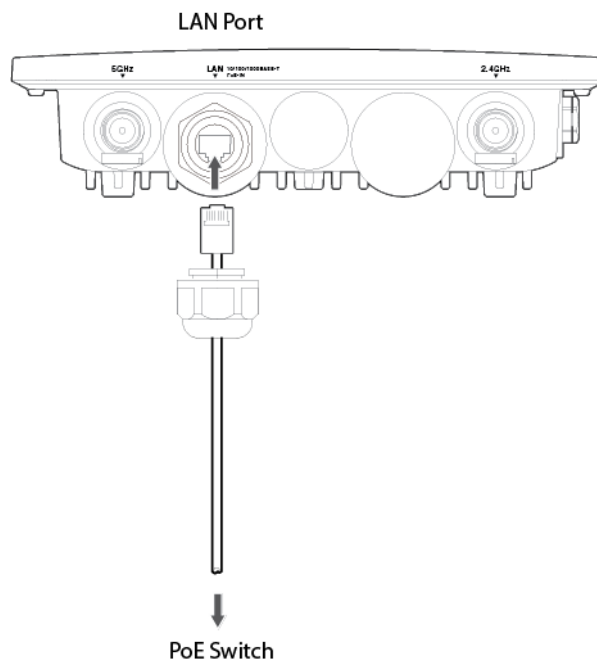

Figure 8. Connecting the LAN Cable and Attaching the Sealing Nut
4. Connect the RJ-45 plug into the LAN port and screw the sealing nut to the access point as shown in Figure 8.